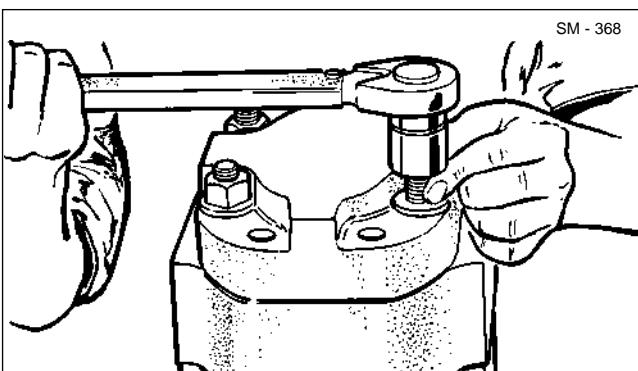

Fig. 33 - Installing Stud Nuts
15. Insert eight studs (27) through the pump assembly and thread into shaft end cover (6). Install washers (26) and nuts (28). Tighten opposite nuts alternately until snug. See Fig. 33. Rotate driveshaft (12) with a 150 mm (6 in) wrench and check carefully for pump binding. If the pump rotates freely, torque tighten alternate nuts (28) to 271 Nm (200 lbf ft). If the pump binds, the cause should be determined and corrected before completing the assembly. Check for burrs on shafts, housings, bearings, etc., or similar causes.